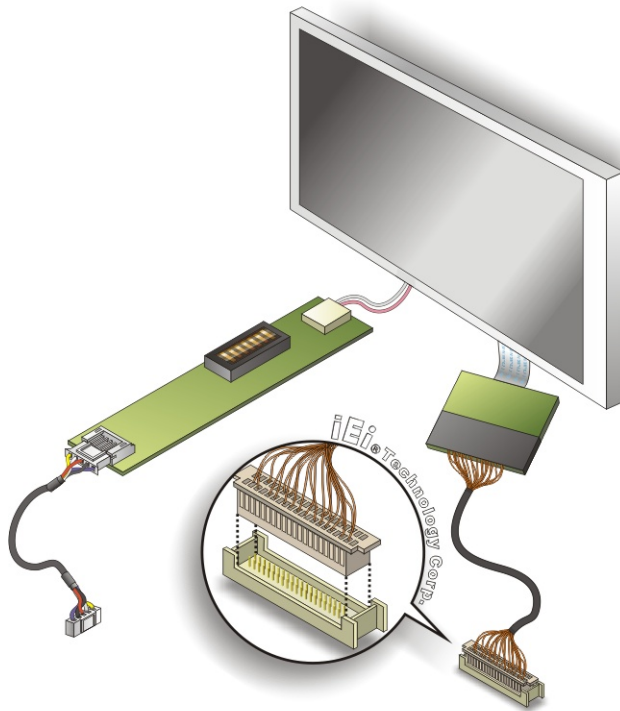

Figure 4-12: LVDS Connector
Step 2: **Insert the cable connector.** Insert the connector from the LVDS PCB driving board to the LVDS connector as shown in **Figure 4-12**. When connecting the connectors, make sure the pins are properly aligned.